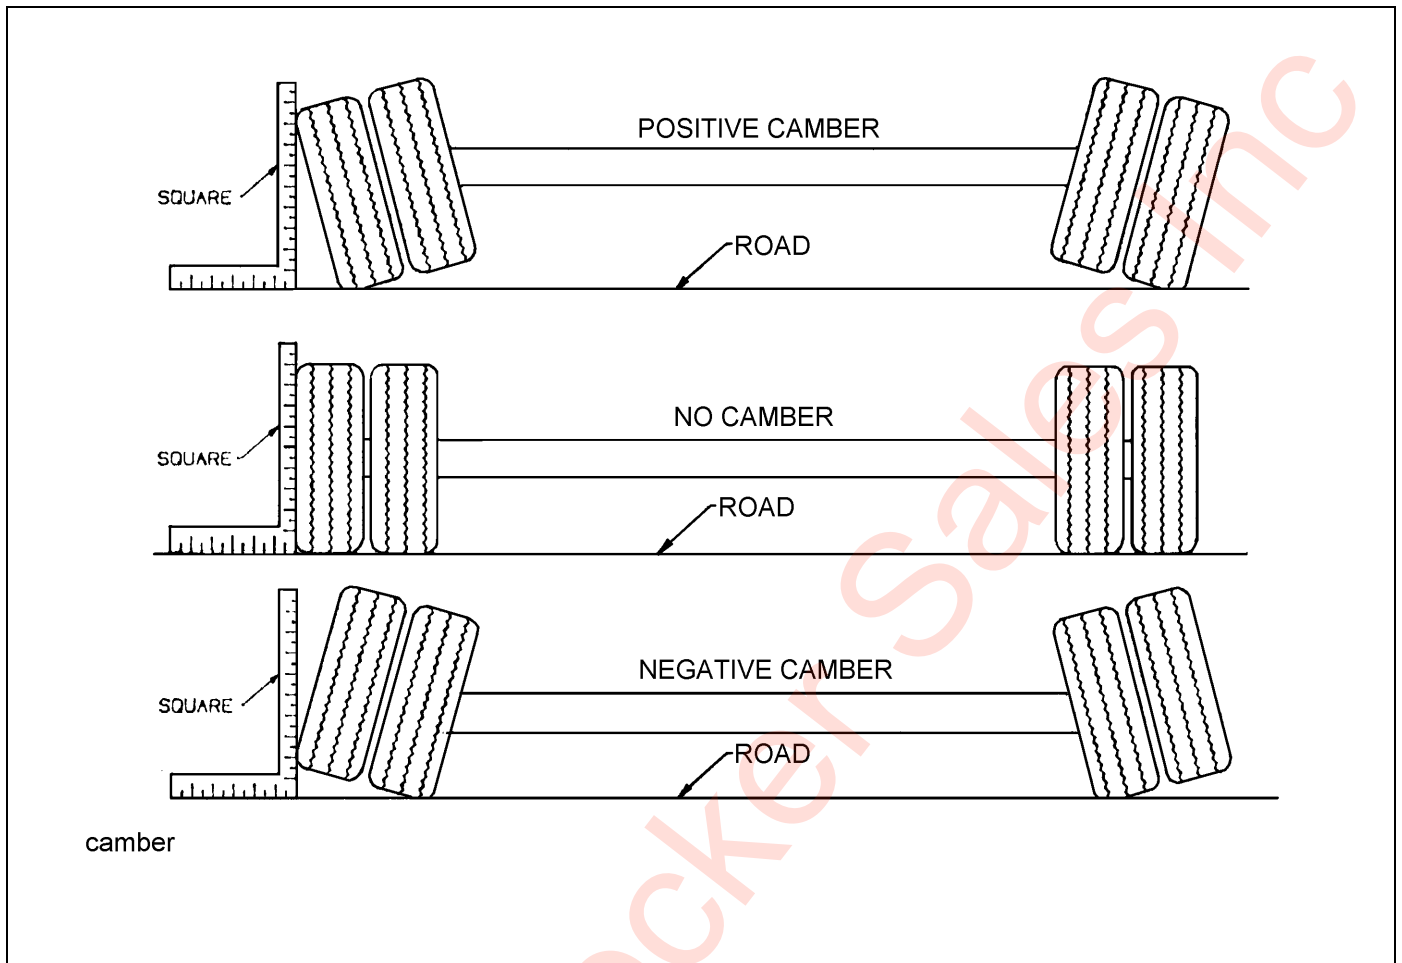

Figure 4-9: Examples of Camber
4. Follow the same procedures as in steps 2 and 3, except place the axle gauge above and below the axle. If gauge point gap is found, the axle has positive or negative camber. The trailer axle has no camber from the factory. If it is found to have positive or negative camber, axle replacement is necessary (See Figure 4-9 for examples of camber).